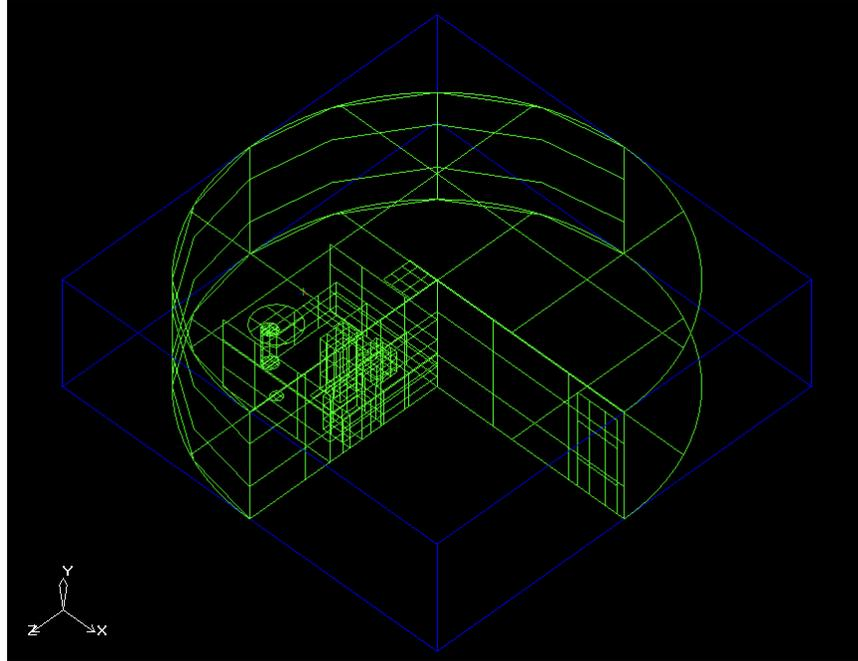

Figure 4.3: Geometry Imported from the IGES File
*An Isometric view of the imported geometry is shown in Figure 4.3.*